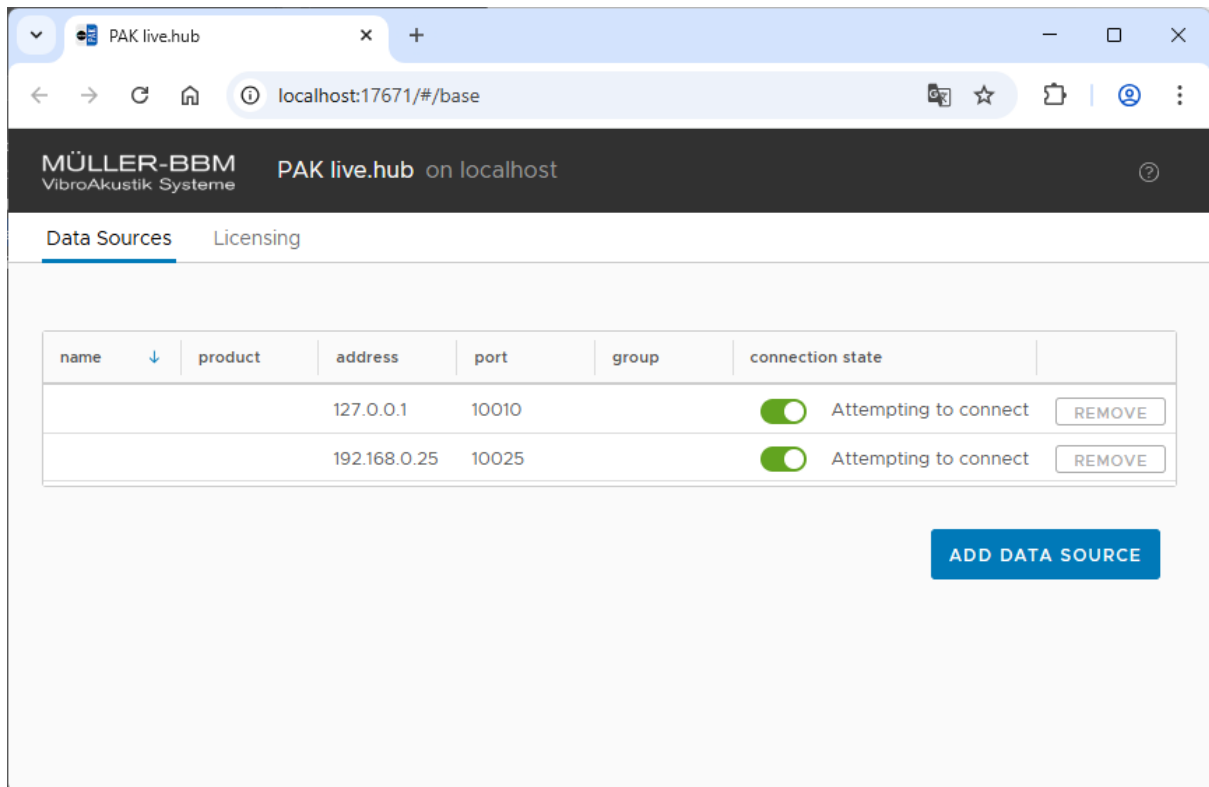

Figure 8: PAK Live.hub service attempting to connect
- that OXYGEN is running, and the PAK Live transfer channel is available and correctly parameterized. If the PAK Live transfer channel in the OXYGEN setup has not been parameterized, there will be displayed “Attempting to connect” in the PAK cloud IO service. (see Figure 8)